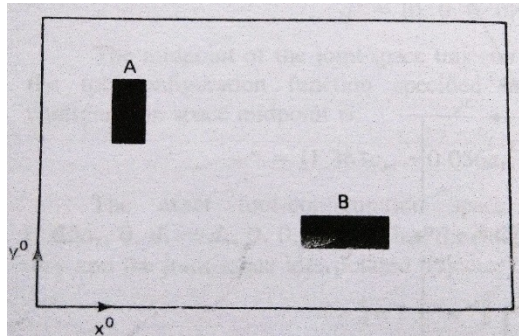

Fig. 1: Robotic workstation (Q. 10 a)
- a) Consider the top view of a robotic workstation, with parts A and B, shown in Fig. 1. Suppose the centroid of part A has coordinates  $[6, 12, 2]^T$  and the centroid of part B has coordinates  $[10, 5, 1]^T$ .